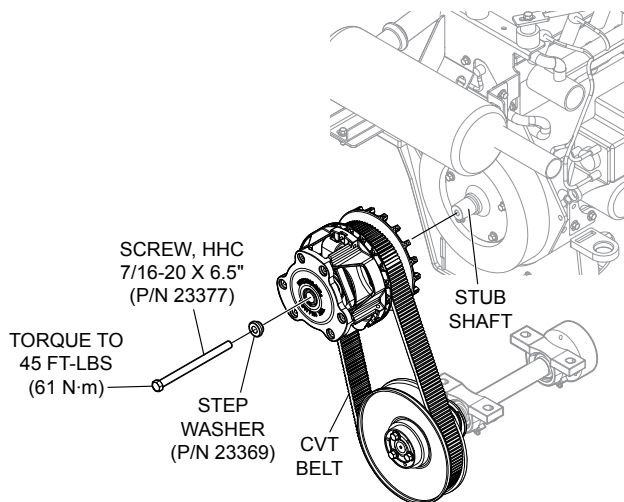

Figure 21. Installing Clutch Assembly
4. Apply primer (Loctite 7649, P/N 32441) then apply Blue Loctite™ #242 (P/N 1477) to clutch retaining screw. See Figure 21.